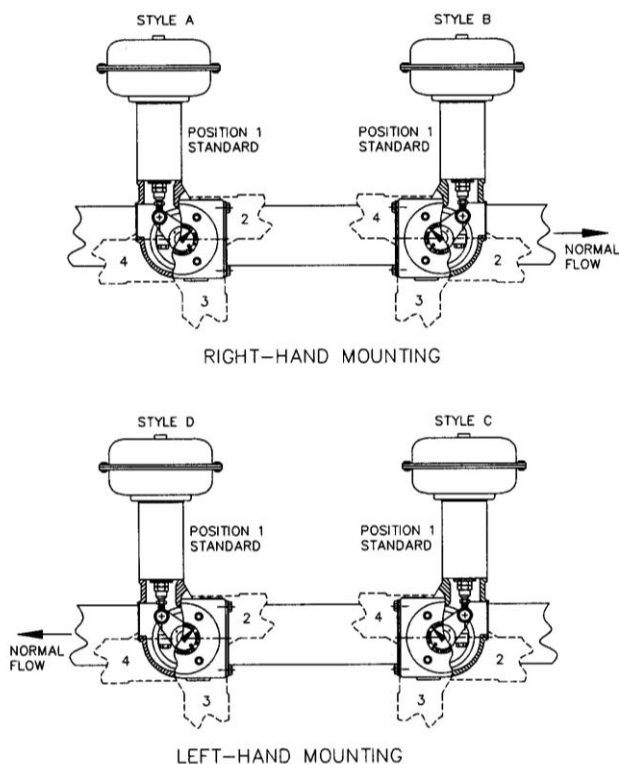

Figure 3: Mounting Styles and Positions for CVS Type 1051 Actuator
2. Refer to Figures 3 and 4 for mounting styles and positions. Normally the actuator is positioned vertically with the valve in a horizontal pipeline.
3. Consult Figures 3 and 4 for the desired housing orientation. Secure the housing to the yoke using cap screws (Key 32).